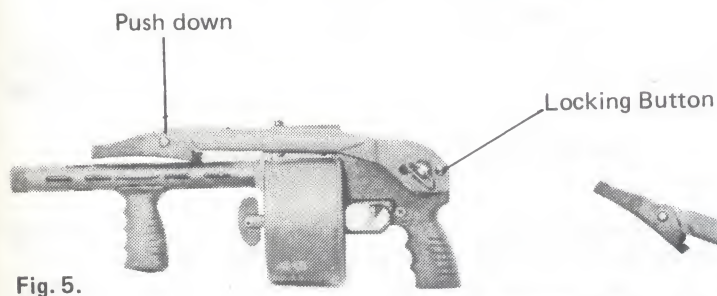

Fig. 5.
1. Press the locking button (Fig. 5) with the thumb of right hand and at the same time push down on the folded butt (Fig. 5) with the thumb of the left hand.